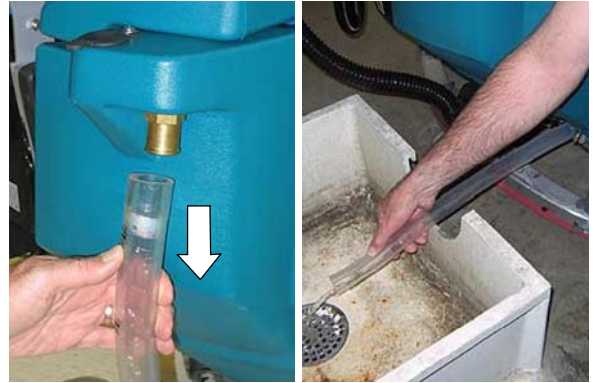

FIG. 60
4. Drain the solution tank (Figure 60).